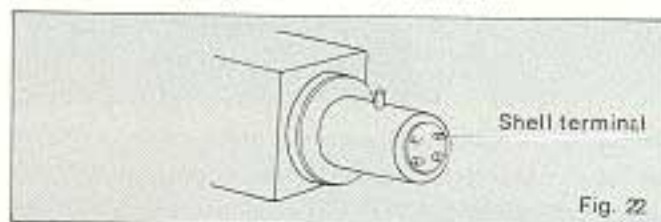

Fig. 22
⑥ Wipe the head shell terminals from time to time. (See Fig. 22)